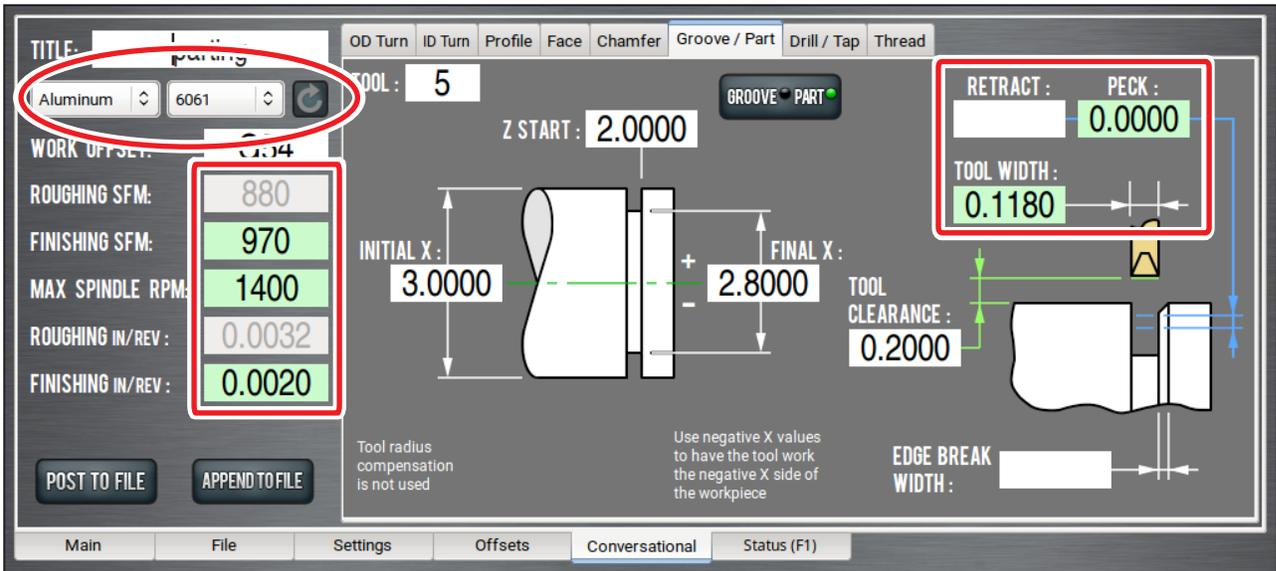

Figure 5.21
You can use PathPilot to automatically calculate feeds and speeds: from the *Conversational* tab, in the Conversational DROs group, select a material, a sub-type, and a tool. Then, PathPilot automatically loads all machining-related DROs (see **Figure 5.21**).
**NOTE:** After PathPilot calculates values for the machining-related DROs, the background turns green (see **Figure 5.21**).